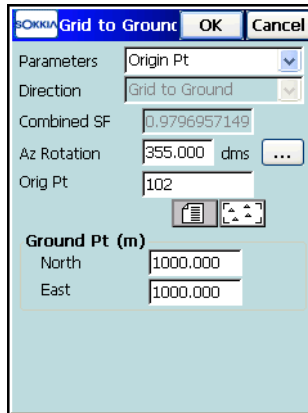

Figure 4-95. Grid to Ground - Origin Point
- In *Origin Point* mode, set a desired grid point from the job as the origin of the ground coordinates for the *Grid to Ground* coordinate transformation (Figure 4-95 on page 4-74). Also set Azimuth Rotation, the angle between the axes of the grid and the ground coordinate systems. This angle defines the reference direction for ground. To compute the *Azimuth Rotation* value, use the **List**  button.